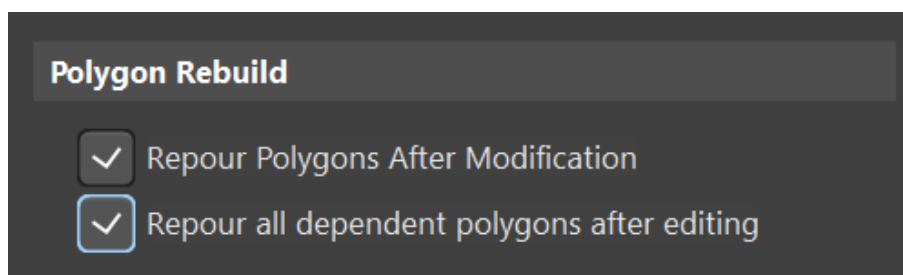

Figure 9. Enable Polygon Rebuild options - Polygon Pour Manager
- Enable both **Repour Polygon options under the Polygon Rebuild section** as shown in Figure 9.